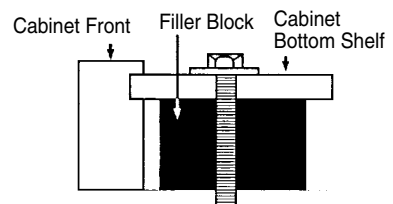

Figure 28
**NOTE:** If the bottom of the upper cabinet is recessed 3/4" or more, you will need 2"x 2" filler blocks (not included) to provide additional support for the bolts. See Figure 28.